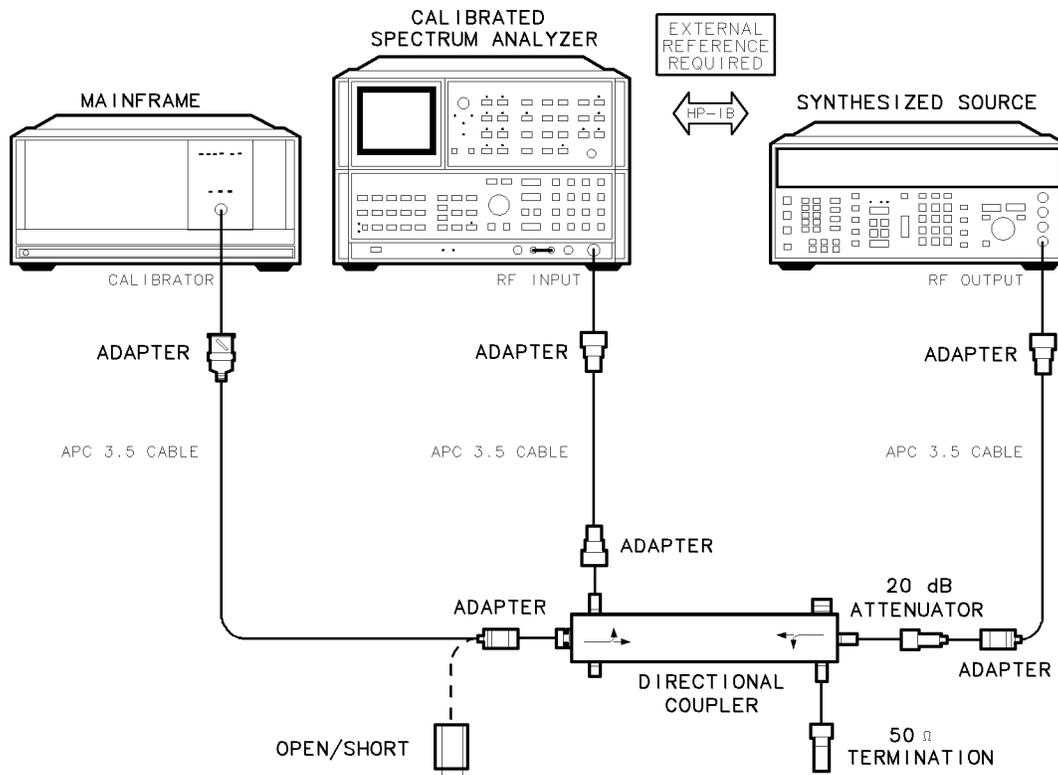

Figure 7-26. Calibrator Output Impedance Test Setup
1. Connect the HP 8566B spectrum analyzer's RF INPUT to the directional coupler using the adapters, as shown in Figure 7-26.
2. Connect the HP 8663A synthesized signal generator's RF OUTPUT to the directional coupler using the adapters, as shown in Figure 7-26.
3. Connect the DUT's CALIBRATOR to the directional coupler using the adapters, as shown in Figure 7-26.
4. Connect the 50 Ω termination to the directional coupler as shown in Figure 7-26.